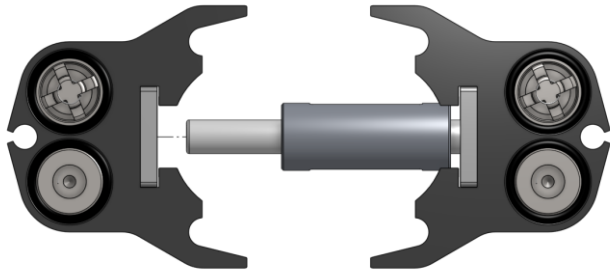

Figure 6
7. Adjust plunger slot position towards center and have slot facing work surface. Replace all valves, o-rings, and white washers. Refer to Fig. 6, 7 or video for proper orientation.